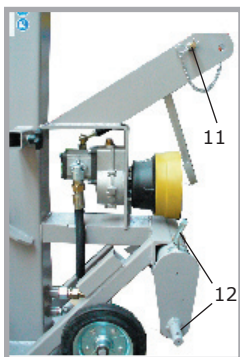
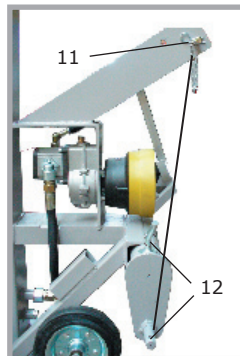

Fig. 11
Fig. 13
Before transporting the splitter on the three-point hitch of your tractor, check for the correct position of the upper (11) and lower hitch pin (12) that must be lined up to each other. Accurate fitting of the pins in the respective holes and precise line-up of their position (Figure 11 and 12) is mandatory to assure trouble-free hitching. Wrong pins installation and misalignment (see figure 13 and 14) may cause dangerous strain of the machine which will void the warranty and release the manufacturer from any liability.